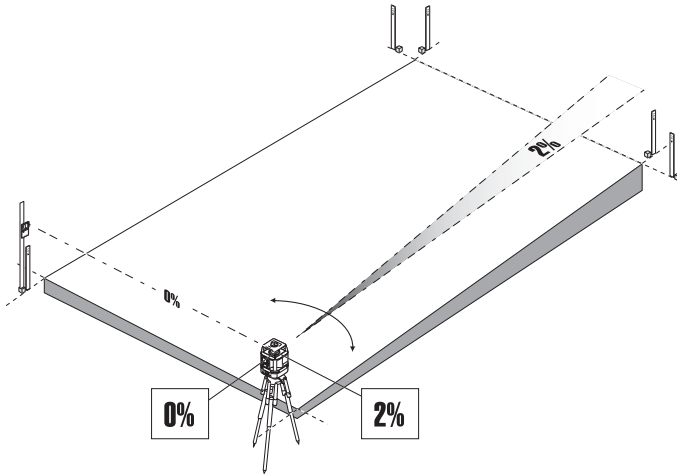

Figure 3-10. Larger Slope Set
6. Dial the slope into the laser transmitter on the axis facing away from the detector. Leave the slope on the axis facing the detector at 0%. If the laser is aligned properly, the grade on the 0% axis will not change at the second hub, and the detector will still have an on-grade signal (Figure 3-10 on page 3-11).